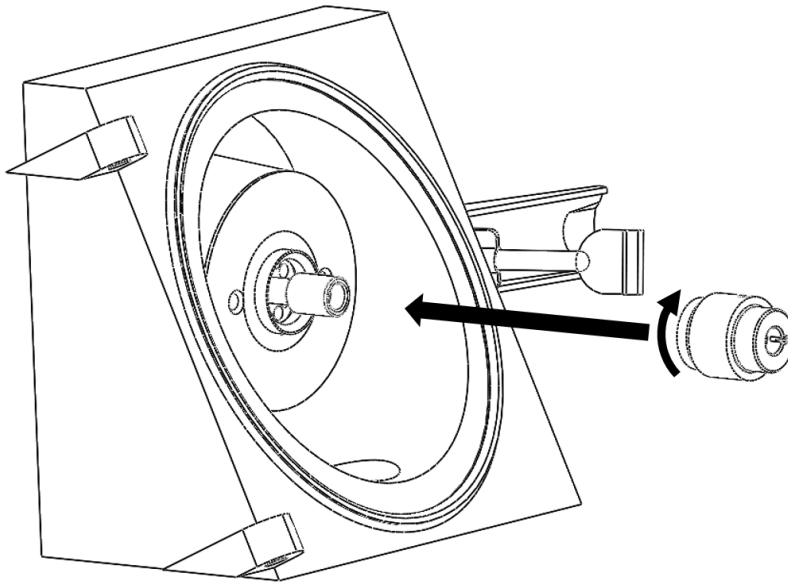

Figure 4: Installation of the inlet adapter.
- Install the inlet adapter over the ceramic spacer by screwing it clockwise into the spray shield thread (see Fig. 4). Do not tighten the adapter yet.